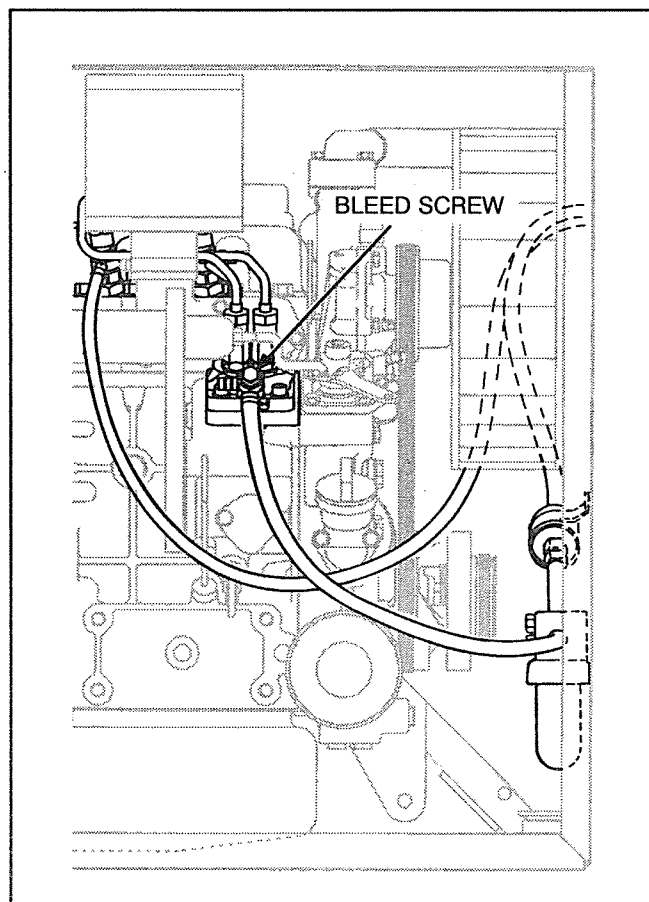

FIGURE 12-3. BLEED SCREW ON THE INJECTOR HOUSING
7. Loosen bleed screw on the injector pump housing (Figure 12-3). Close the jumper switch to energize the fuel pump until fuel purges from the bleed screw opening at the injector pump housing.